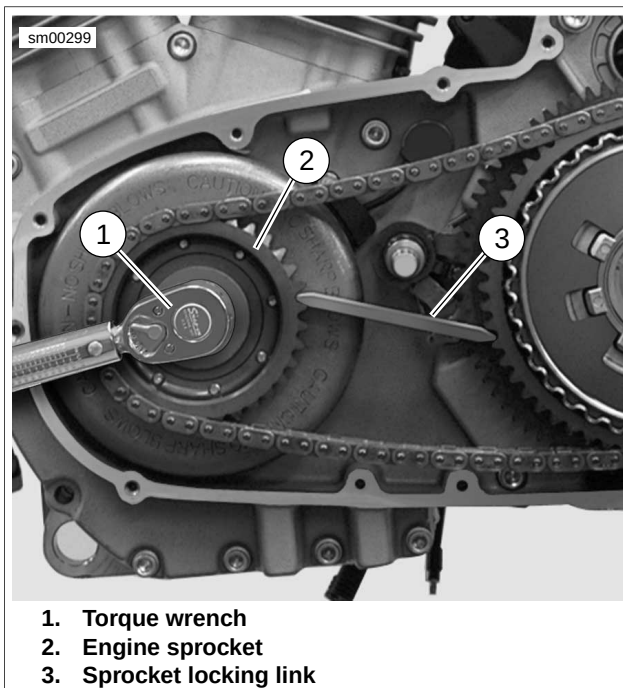

Figure 6-35. Sprocket Locking Link Tool
3. Verify that outer thrust washer (4) is installed on transmission shaft.
5. See Figure 6-35. Install the engine sprocket bolt.